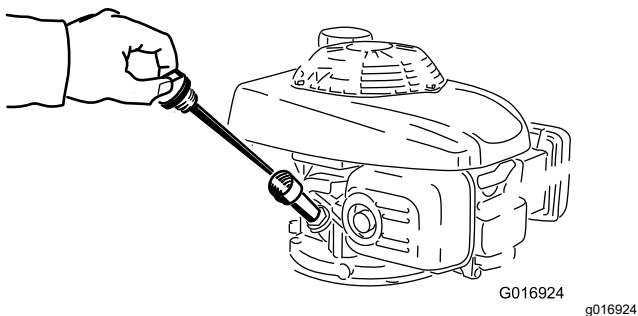

Figure 25
- Remove the dipstick (Figure 25).